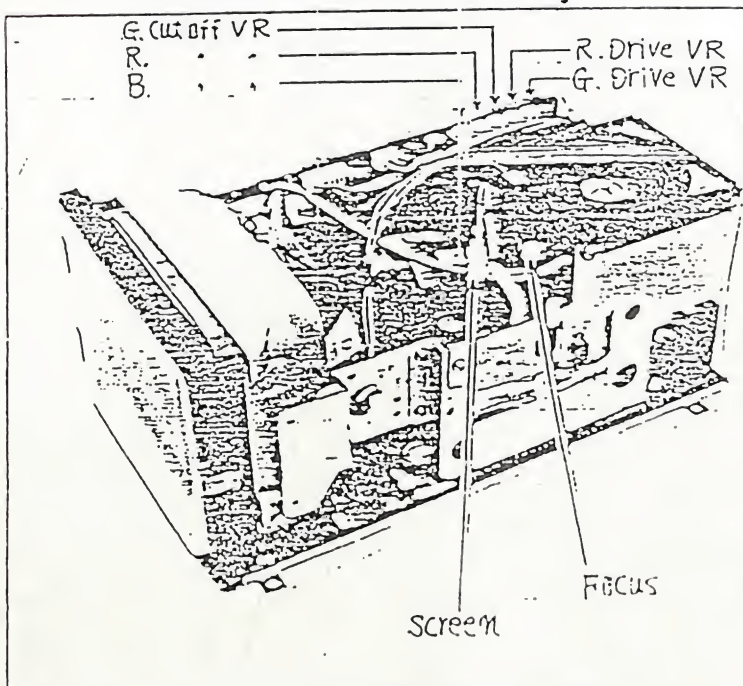
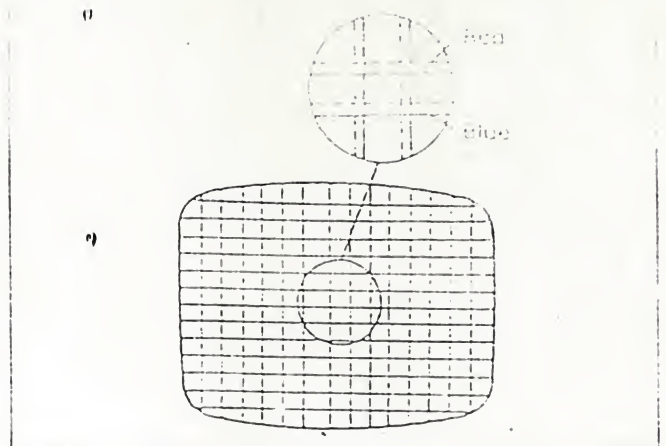

Fig. 2-8
Fig. 2-5
3. Turn the green cutoff VR (R707) fully clockwise and the red and blue cutoff VRs (R704, R701) fully counter-clockwise. (Fig. 2-8)
Adjust the screen VR (Fig. 2-8) so that the vertical green band becomes easy to see.
2. Turn the red and blue cutoff VRs fully clockwise and the green cutoff VR fully counter-clockwise (Fig. 2-5). Adjust the screen VR (Fig. 2-8) for an easily seen image.
5. Turn the green cutoff VR full clockwise and adjust the two 6 pole convergence magnets so that the green and magenta become overlapped throughout the picture area to yield white. (Fig. 2-5)
3. Turn the red, blue and green cutoff VRs (R704, R701, R707) and the screen VR (Fig. 2-8) fully counter-clockwise to eliminate luminance.